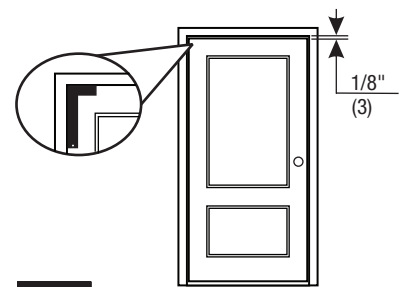

Figure 9
5. Verify frame is square by using a framing square. Gaps between door and frame should be consistent. Gap should be 1/8" (3mm) at jamb and header. (Figure 9)